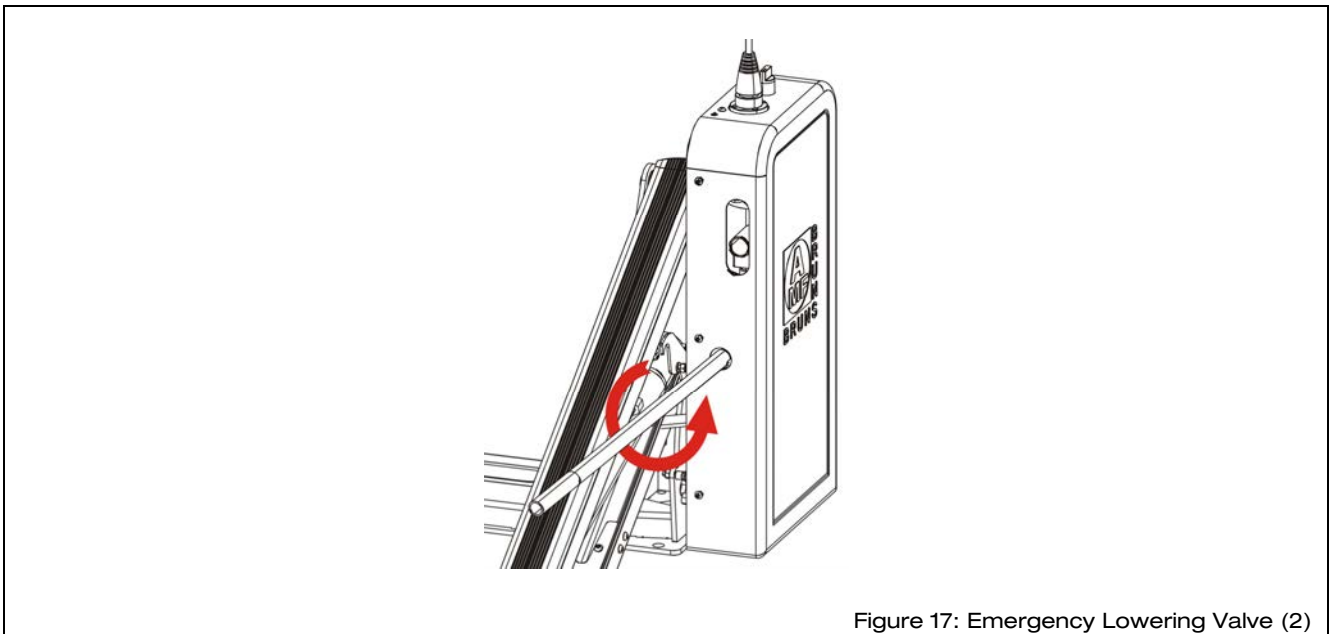

Figure 17: Emergency Lowering Valve (2)
- ⇒ Open the emergency lowering valve by turning the lever slowly in an anti-clockwise direction (see Figure 17).